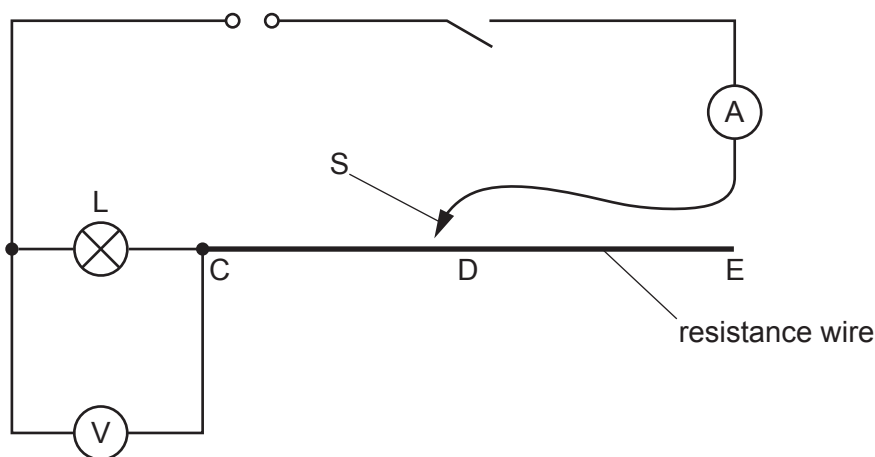

Fig. 2.1
- (ii) Filament lamp in a suitable holder, labelled **L**. Any low voltage lamp will suffice, provided that it glows when connected as shown in Fig. 2.1, with the sliding contact **S** at point **C** on the resistance wire.
- (vii) Suitable terminal (e.g. crocodile clip) attached to the constantan wire at the end **C** of the metre rule so that connection can be made to the circuit, as shown in Fig. 2.1.
- (ix) Sufficient connecting leads to construct the circuit shown in Fig. 2.1.
1. The components are to be connected by the supervisor as shown in Fig. 2.1.
Set up the circuit so that it is arranged as shown in Fig. 2.1.